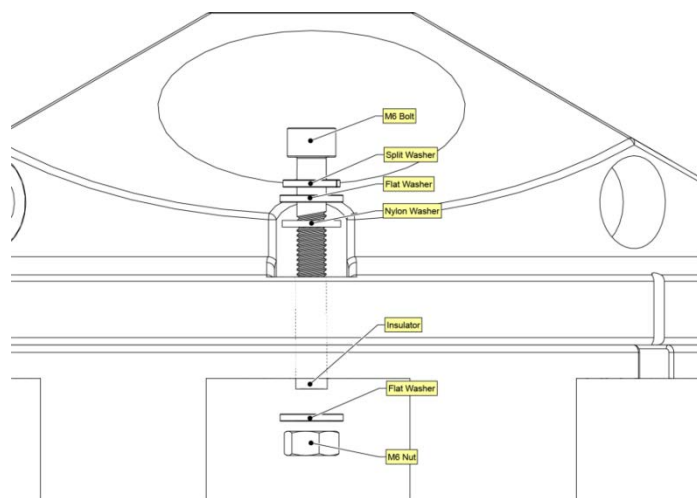
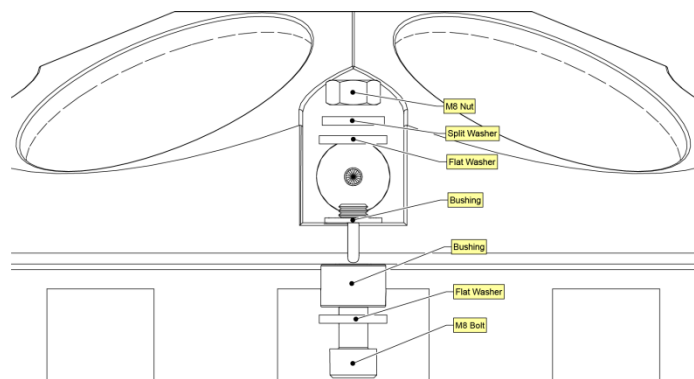

Figure 27. Transducer Mounting Hardware – 1200 kHz
Figure 28. Transducer Mounting Hardware – 300/600 kHz
6. Examine the transducer assembly nuts, bolts, and washers (8-mm for 300/600 kHz systems and 6-mm for 1200 kHz systems) for corrosion; replace if necessary. Figure 27 and Figure 28 show the assembly order of the transducer mounting hardware. All hardware items are needed to seal the Navigator properly.